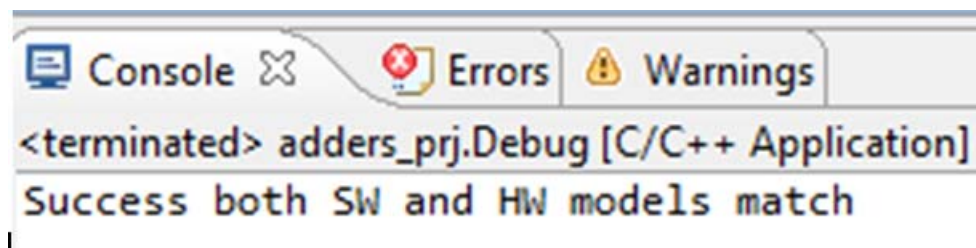

Figure 3-10: Expected Console Output
3. Select fir_prj.Debug and click ok. Console should look like Figure 3-10.